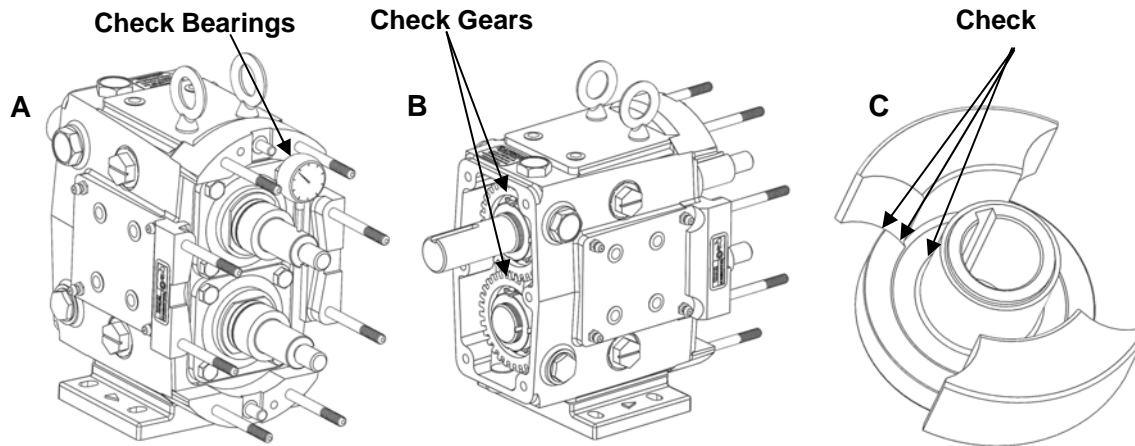

Figure 22: Annual Maintenance Checks
- Check the gear case bearings by measuring the shaft's radial movement with a dial indicator (Figure 22, A). If the movement is greater than or equal to the rotor-to-body clearance found on page 28 (Table 8) the bearings should be replaced.
- Remove the gear casing cover (See page 19 for disassembly information) and inspect the gears for wear and damage (Figure 22, B). Also check for backlash and looseness.
- Inspect the rotors for signs of wear and stress cracks around the areas defined in Figure 22, C. Replace, if necessary.